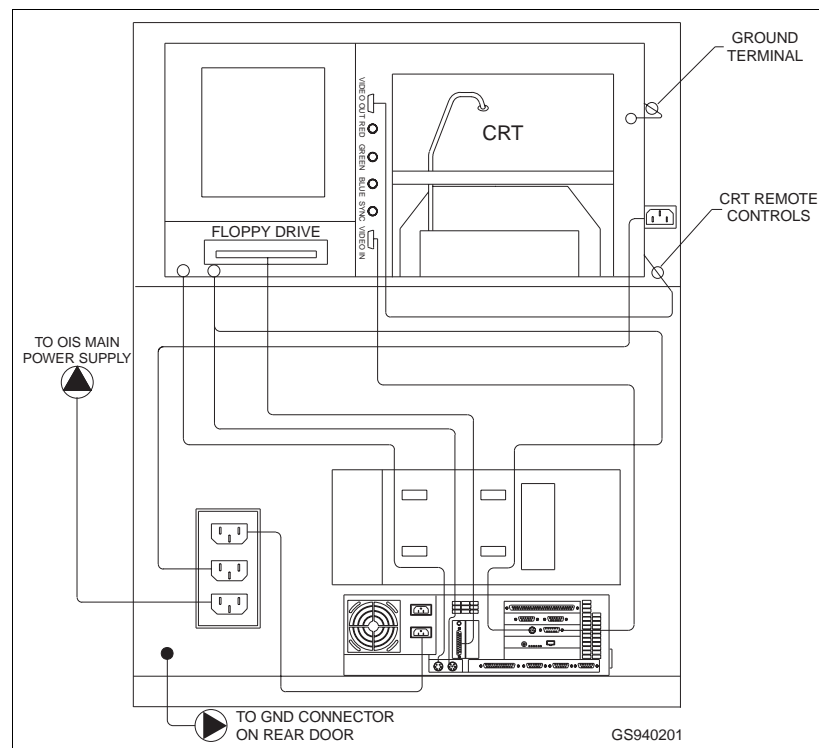

Figure 8-6. Computer Cable Connections
3. At the rear of the cabinet, remove the door and remove all cables from the back of the computer. See Figure 8-6, for OIS12; see Figure 5-14 for OIC12.